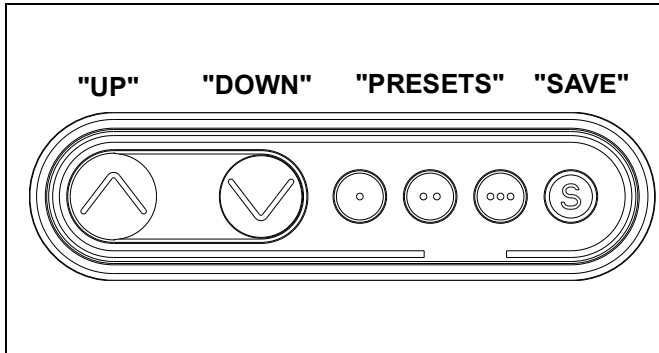

Figure 19
1. Press "UP" or "DOWN" buttons to raise or lower height as desired. (See Figure 19)
1. Adjust height until desired preset level is reached using "UP" and "DOWN" buttons. (See Figure 19)
2. Press "SAVE" button. (See Figure 19)
3. Press one of three preset buttons (., .. or ...) to save preset position. (See Figure 19)